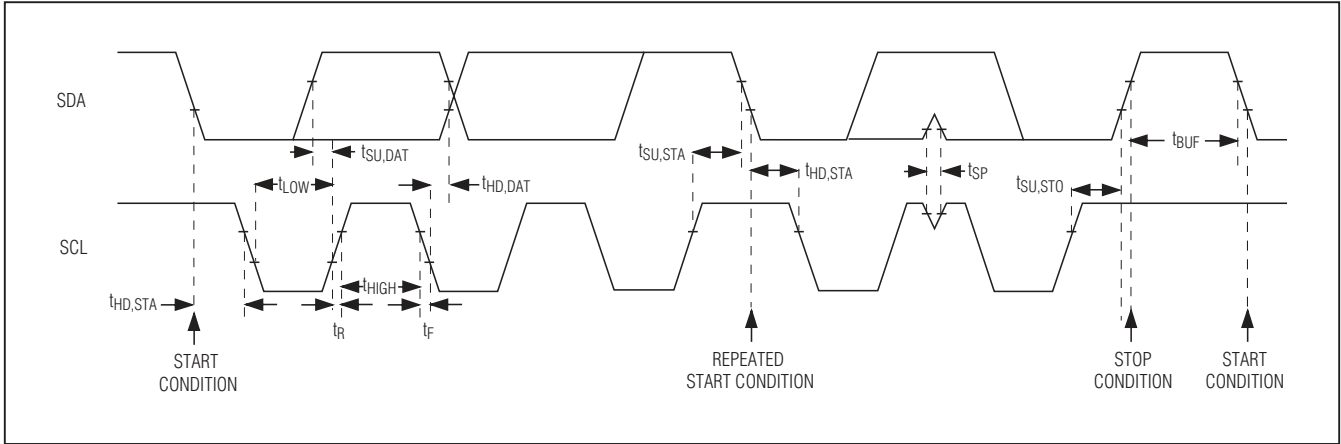

Figure 4. 2-Wire Interface Timing Diagram
The IC features an I²C/SMBus-compatible, 2-wire serial interface consisting of a serial-data line (SDA) and a serial-clock line (SCL). SDA and SCL facilitate communication between the IC and the master at clock rates up to 400kHz. Figure 4 shows the 2-wire interface timing diagram. The master generates SCL and initiates data transfer on the bus. A master device writes data to the IC by transmitting the proper slave address followed by the register address and then the data word. Each transmit sequence is framed by a START (S) or Repeated START condition and a STOP condition. Each word transmitted to the IC is 8 bits long and is followed by an acknowledge clock pulse. A master reading data from the IC transmits the proper slave address followed by a series of nine SCL pulses. The IC transmits data on SDA in sync with the master-generated SCL pulses. The master acknowledges receipt of each byte of data. Each read sequence is framed by a START or Repeated START condition, a not acknowledge, and a STOP condition. SDA operates as both an input and an open-drain output. A pullup resistor, typically greater than 500 Ω , is required on the SDA bus. SCL operates as only an input. A pullup resistor, typically greater than 500 Ω , is required on SCL if there are multiple masters on the bus, or if the master in a single-master system has an open-drain SCL output. Series resistors in line with SDA and SCL are optional. Series resistors protect the digital inputs of the IC from high-voltage spikes on the bus lines, and minimize crosstalk and undershoot of the bus signal.